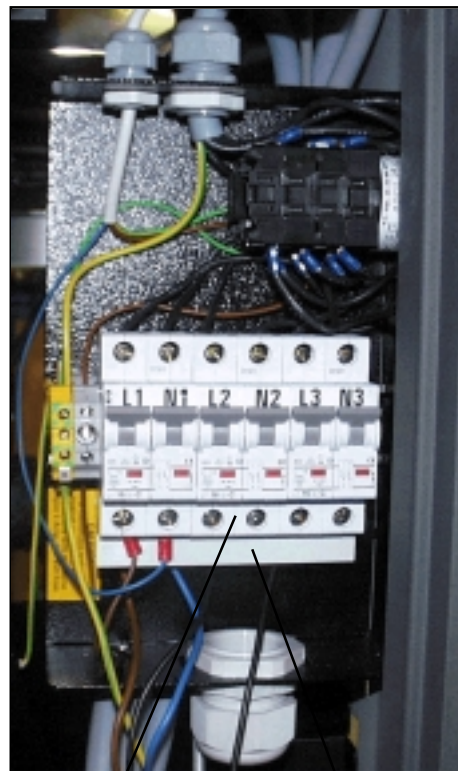

Fig. 3-M
3. Reinstall the cover for the power box by its 2 screws, fig. 3-L.